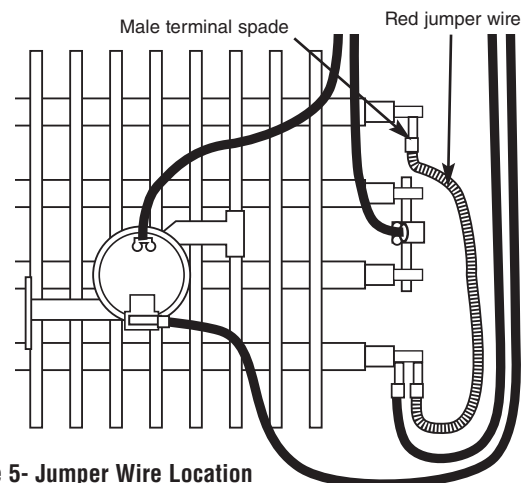

Figure 5- Jumper Wire Location
1. Remove the red jumper wire as shown in Figure 5 and discard.